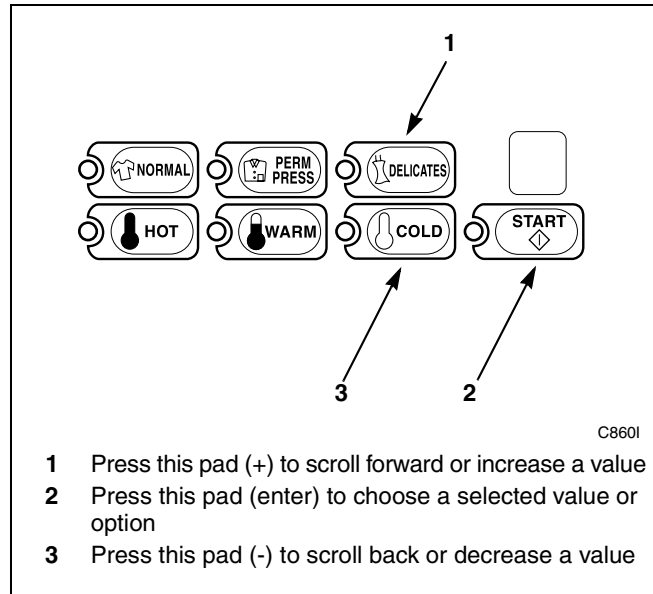

Figure 213
6. Press the DELICATES (+) or the COLD (-) keypad to increase or decrease the current number until correct. Refer to *Figure 213*.